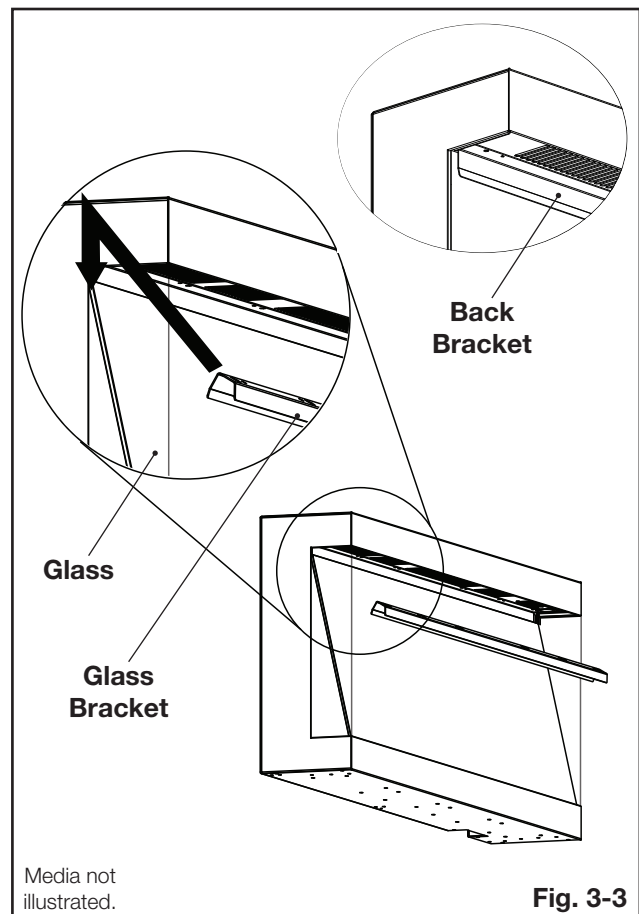

Fig. 3-3
3. For ease of installation, use the glass bracket to gently ease the front glass onto the back bracket (**Fig. 3-3**). Be careful not to pinch your fingers or hands.